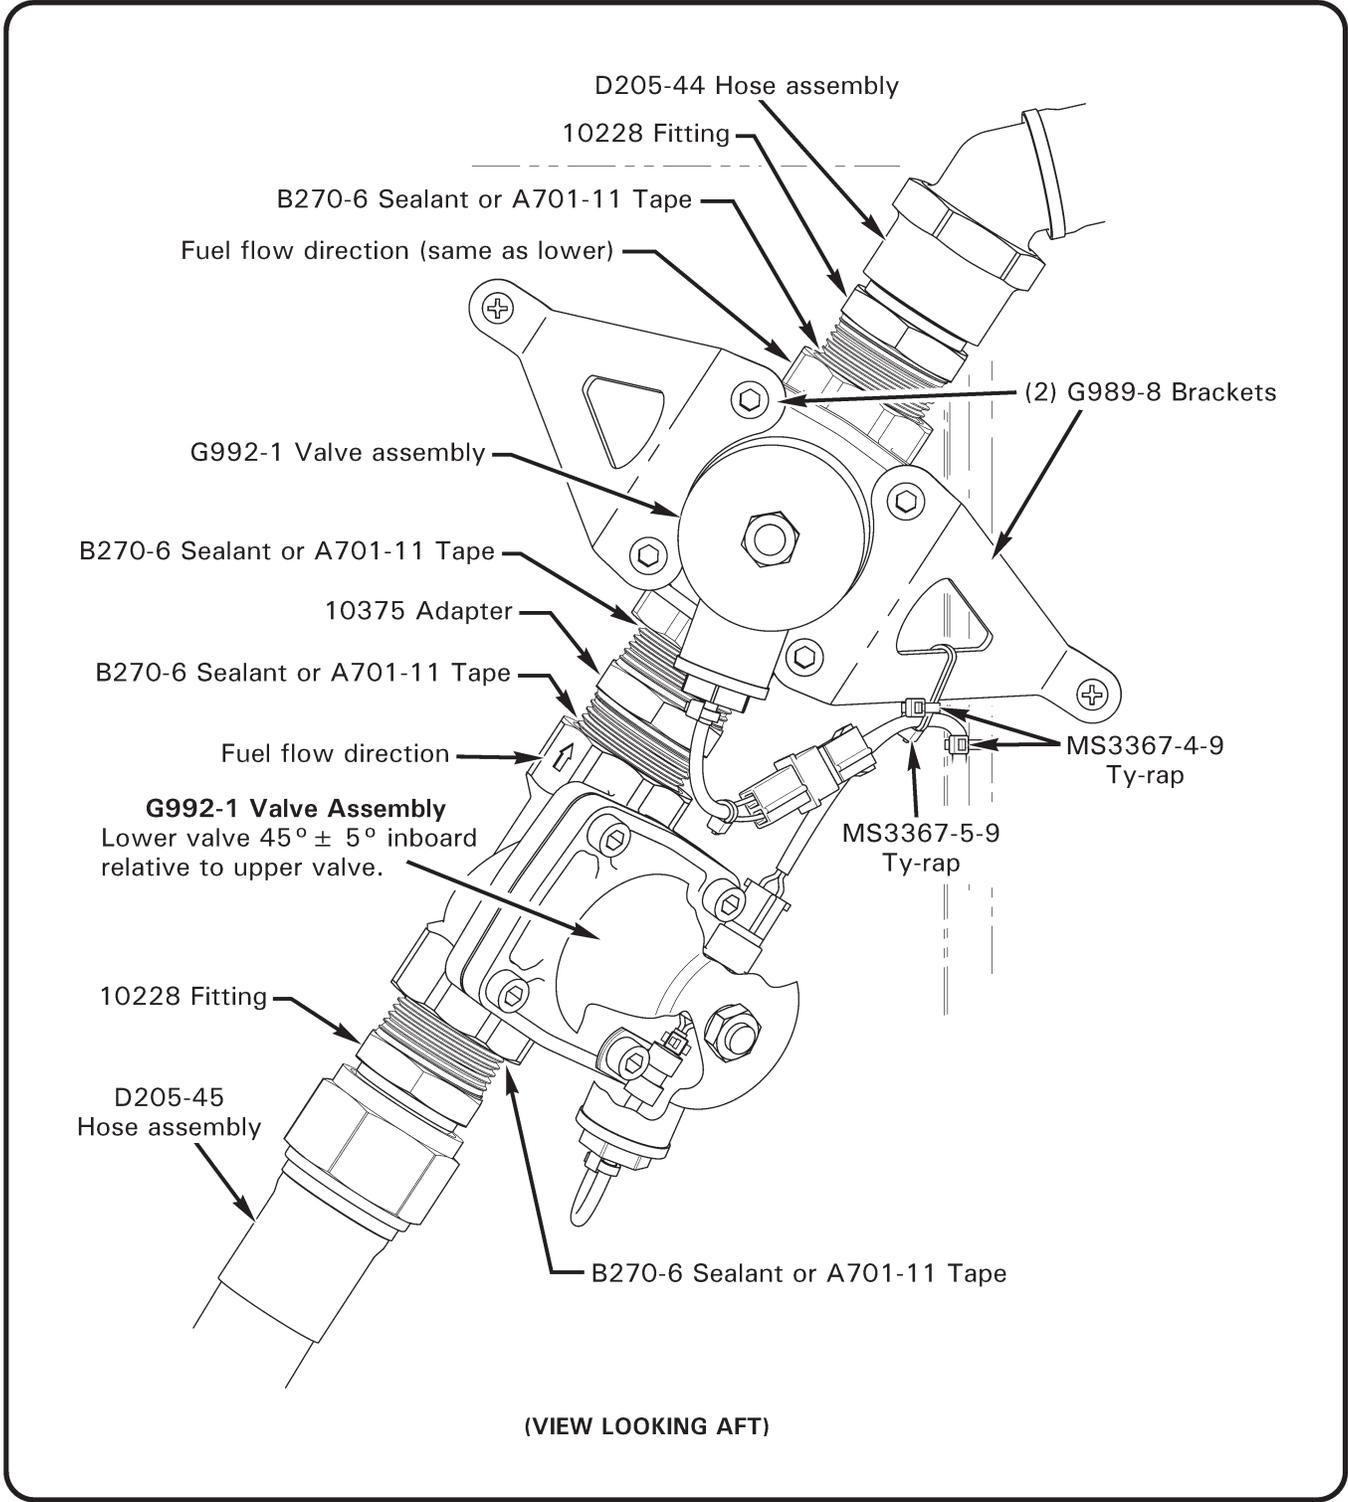

FIGURE 28-10 PRESSURE FUEL SYSTEM SHUT-OFF VALVE ASSEMBLIES
3. Refer to Figure 28-10. Open right-side engine cowling door. Remove hardware securing G989-8 brackets to firewall. Cut and discard ty-raps as required.
4. Using backup wrench, special torque hose nut per § 20-33 but do not torque stripe. Install ty-raps per Figure 28-10. Cinch ty-raps snug without over tightening and trim tips flush with heads
4. Refer to Figure 28-10. Cut and discard ty-raps as required and disconnect G992-1 valve assembly wire harnesses from G991-1 harness assembly at connectors.
3. Refer to Figure 28-10. Assemble upper and lower G992-1 valve assemblies and 10375 adapter. Special torque valves and adapter to 500 in.-lb. Tighten valves to align lower valve to $45^\circ \pm 5^\circ$ inboard relative to upper valve and torque stripe per Figure 5-1.